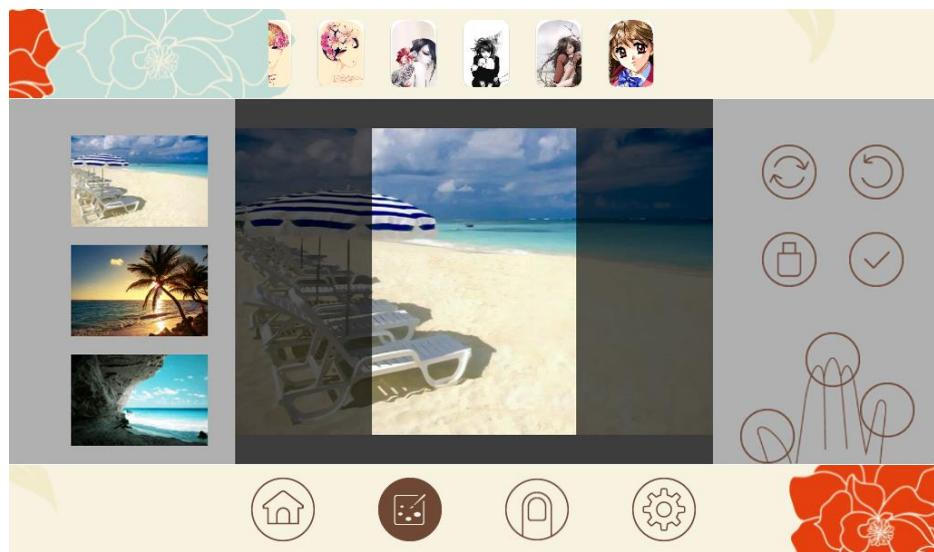

Figure 6
(1) Press  , enter the editing interface of customized picture, as shown in Figure 6.